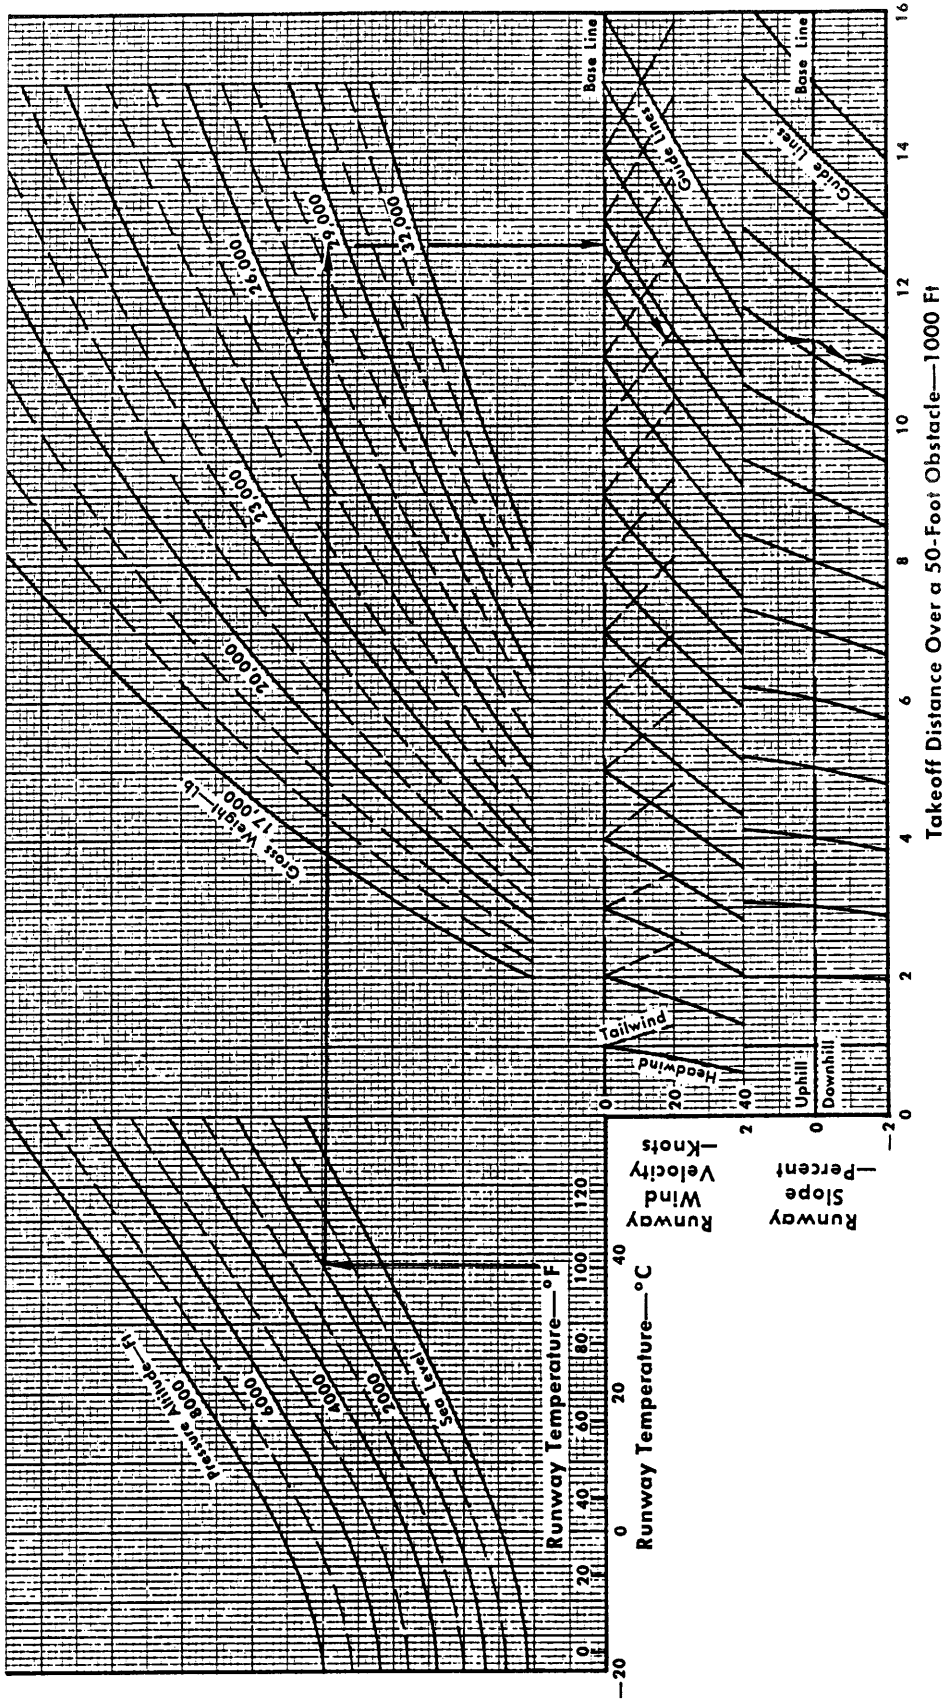

Figure A2-8
- o. Referring to Figure A2-8, the total distance to takeoff and clear a 50-foot obstacle, based on normal acceleration, zero-wind, and zero-slope is 12600 ft. Predicted distance with wind and slope is 10900 ft.